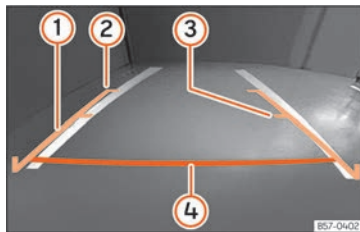

Fig. 201 Display on the Infotainment system screen.: guide lines.
- Vehicle load modifies the representation of the guide lines » **Fig. 201**. The width represented by the lines decreases with vehicle load. Pay special attention to the surroundings when the inside of the vehicle or the luggage compartment are loaded.
Meaning of the orientation lines »» Fig. 201